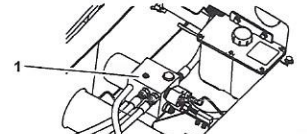

Figure 12
- Place a large drain pan under the hydraulic-manifold block (Figure 12).